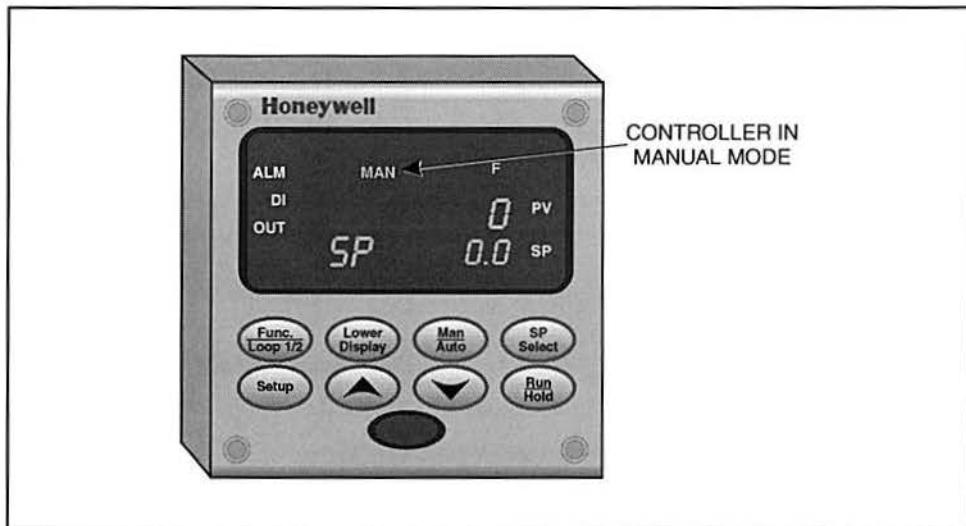

Figure 27. Controller in Manual Mode
- ❑ 3. If necessary, press the **Man/Auto** key until "MAN" appears in the upper left portion of the display, indicating that the controller is in manual mode, as shown in figure 27.